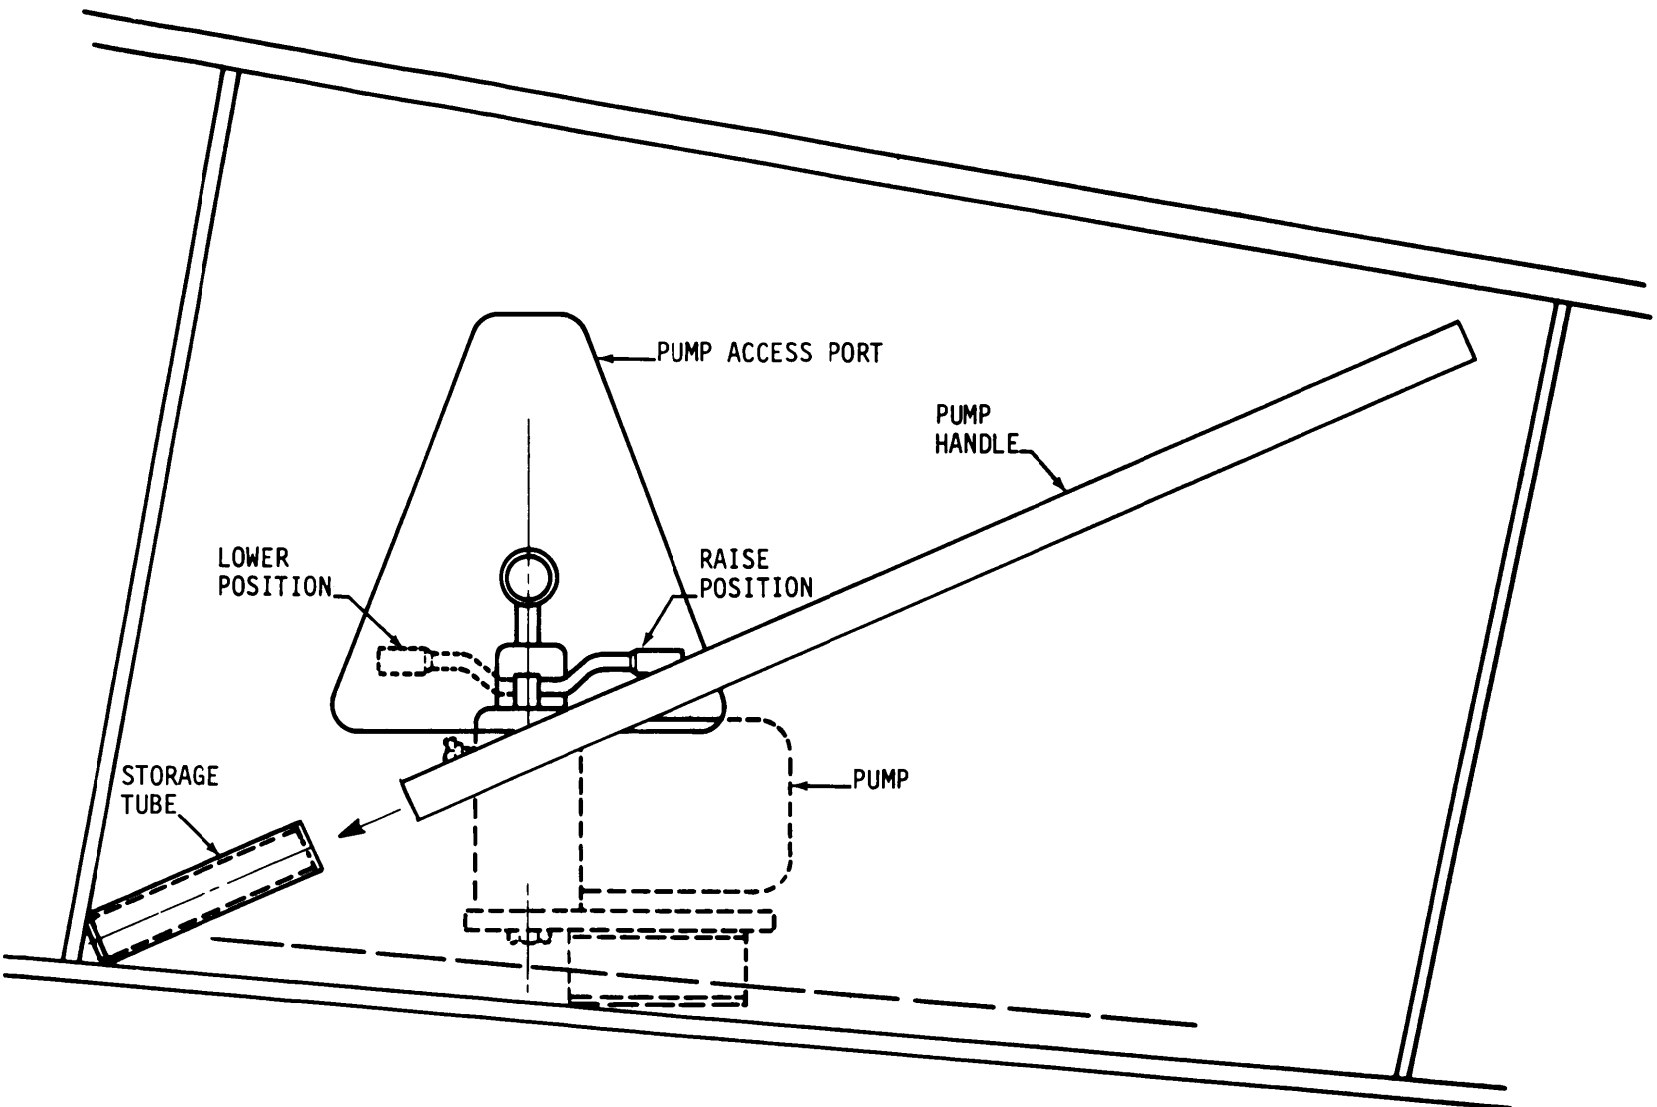

Figure 4-2. Pump Handle / Storage Tube
b. Remove the pump handle from the pump storage tube (Fig. 4-2).
h. Place the pump handle back into the storage tube (Fig. 4-2).
- g. Place the pump handle into the storage tube (Fig. 4-2).